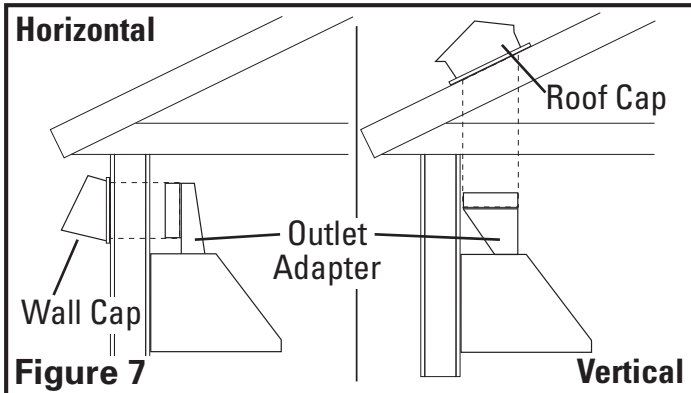

Figure 7
1. Determine the type of ducting you will require (Figure 7).
**NOTE:** When the duct termination is similar to that shown in figure 7 (passing through the wall to which the hood is mounted) the installation requires special consideration. Depending upon where the wall studs are located, it may be necessary to cut one or more of the wall studs and install a header and footer to transfer the load to the adjacent studs. Additional studs may need to be framed into the opening to attach dry wall or secure the hood. If this is your situation Air King recommends that you hire a professional and comply with all applicable codes.